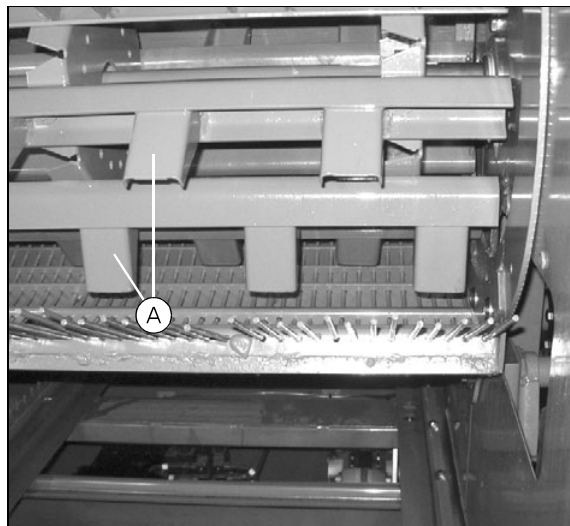

Fig. 70
2. Fit the rasp bars on the cylinder spiders alternately so that the pins are offset in relation to each other (A) (Fig. 70).